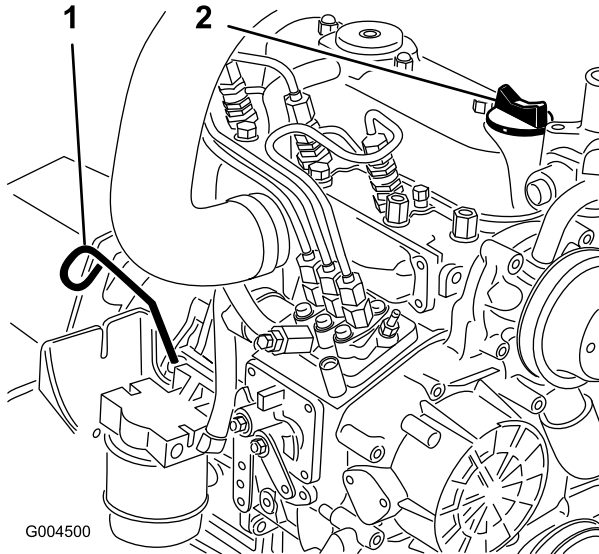

Figure 44
2. Remove the dipstick (Figure 44), wipe it clean, and install the dipstick. Remove the dipstick and check the oil level.
3. If the oil level is below the Full mark, remove the fill cap (Figure 44) and add oil until the level reaches the Full mark on the dipstick.